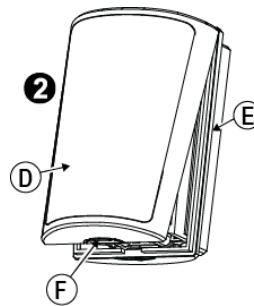

Figure 5. Opening the Unit
1. Separate the base from the cover (see Figure 5).